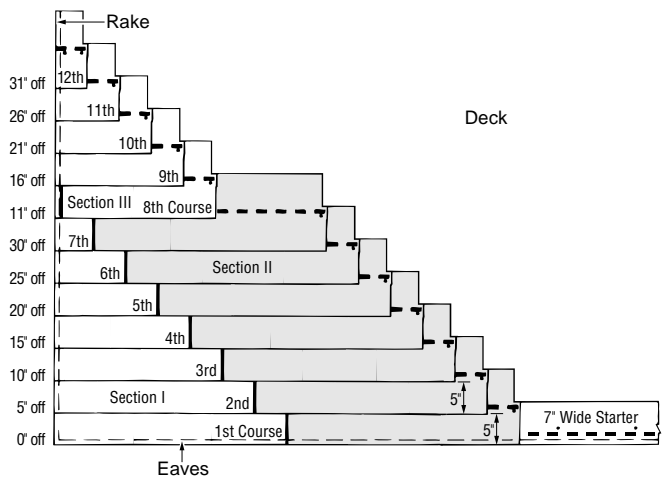

Figure 14-9: Five Off, Twelve Up.
1. Begin the first diagonal, "Section I," by taking a full shingle and removing its left-hand 3/8" by 5" shi lap piece (Figure 14-9).
1. Begin the second course by cutting 5" off the left end of a shingle and applying the 31" piece over and above the first-course shingle, flush with the left edge of the first-course shingle, and exposing the first course 5" (*Figure 14-9*).
3. Install "Section II" as shown in *Figure 14-9* using full shingles against the seven courses in "Section I." This must be done before continuing with courses eight through twelve ("Section III"). These "Section II" shingles are to be butted up against the "Section I" shingles that started courses one through seven. Fasten all shingles in the normal fashion.
1. Begin the eighth course by cutting 11" off the left end of a shingle and applying the 25" piece over and above the seventh-course shingles. Shingle should be flush with the left edge of the first seventh-course shingle, and exposing it 5" (*Figure 14-9*).